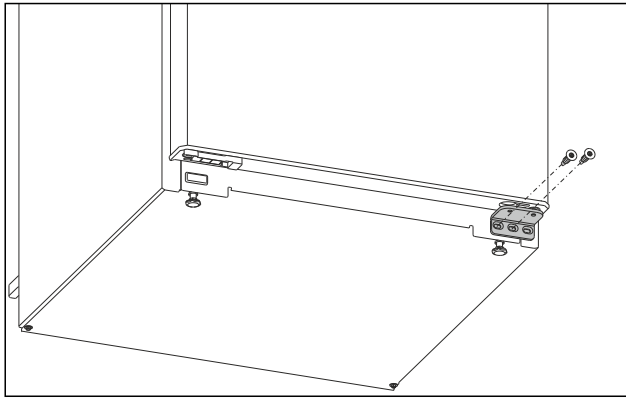

Fig. 4
- ▶ Unscrew the middle screw on the lower swap bearing block with a Torx 20 screwdriver. Fig. 4 (1)
- ▶ Unscrew the inner screw on the lower swap bearing block with a Torx 20 screwdriver. Fig. 4 (2)